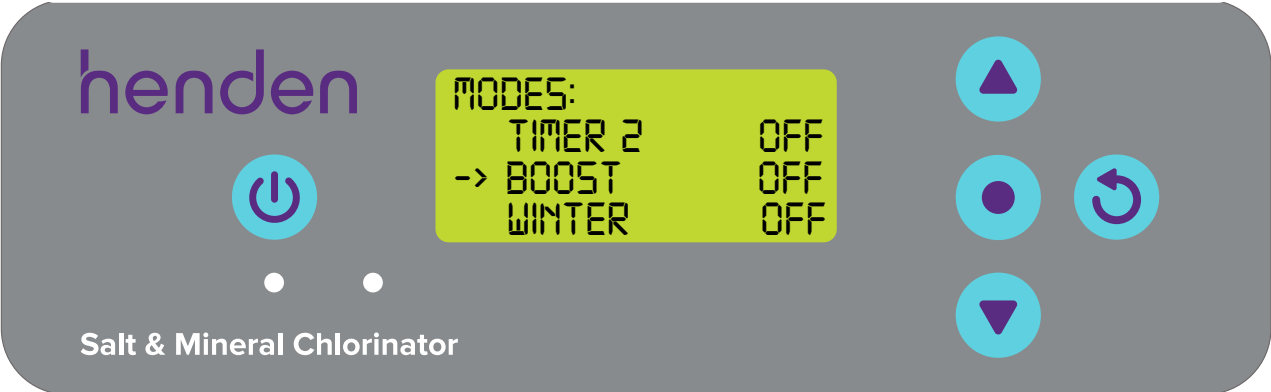

Figure 9.41
- Press the  **menu up/down** buttons to scroll down to **BOOST** (ref Figure 9.41), then select by pressing the  **menu/setting select** button.